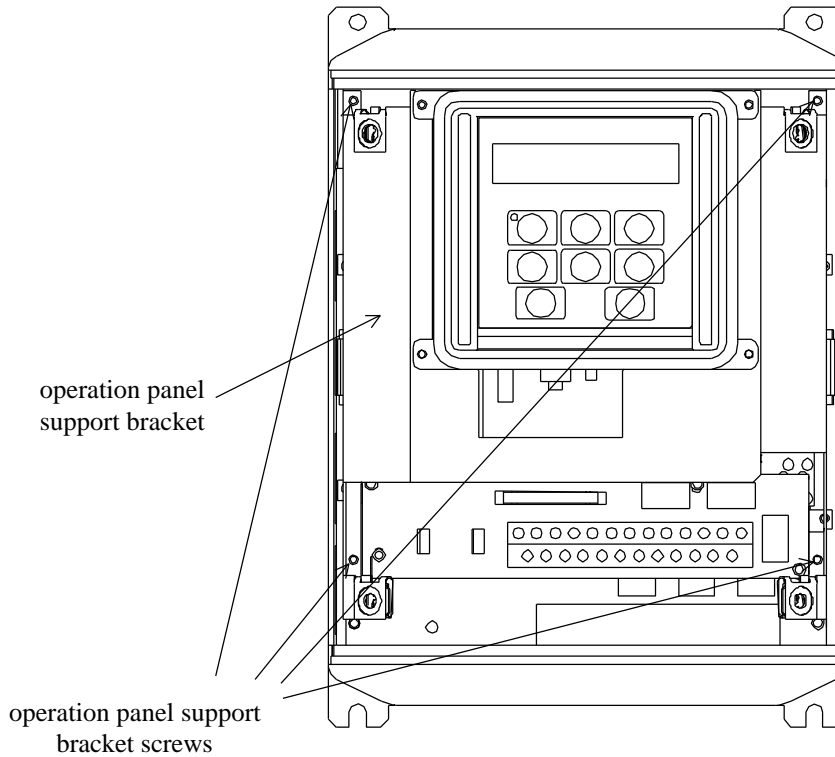

Figure 3: E3 with front cover removed
4. Loosen the 4 screws attaching the operation panel support bracket to the control board support bracket and remove the operation panel and support bracket as a unit (refer to Figure 3).